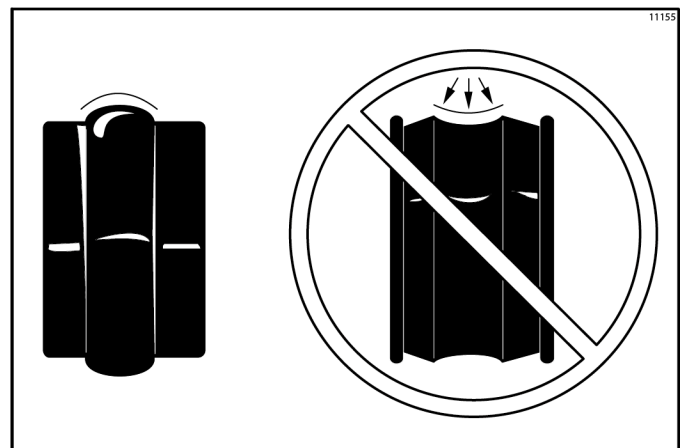

Figure 6-3
**Note:** To ensure the mix does not leak out of the back of the freezing cylinder, the middle section of the driveshaft seal should be convex, or extend out from the seal. If the middle section of the seal is concave, or extending into the middle of the seal, turn the seal inside out. (See Figure 6-3.)